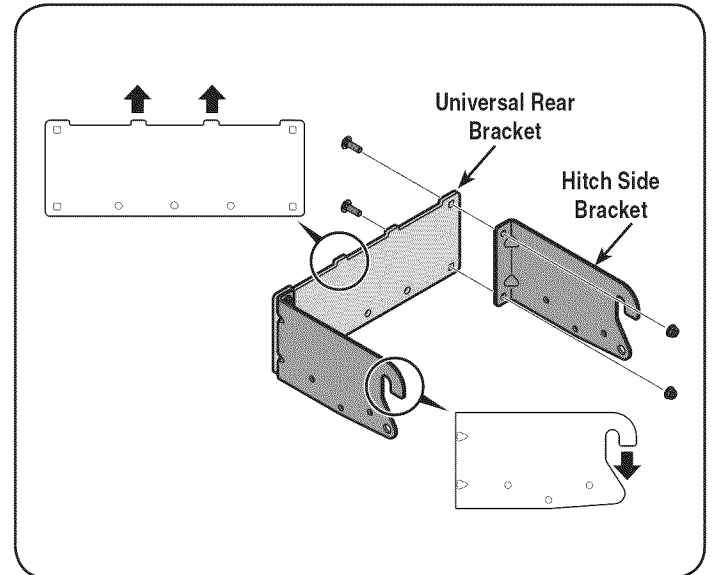

Figure 3
1. Attach the right-hand and left hand rider hitch bracket to the universal rear attachment bracket using the four carriage bolts (710-0276) and flange lock nuts (712-04063) packed with the mounting brackets. Position the brackets with the hooks on the right-hand and left hand rider hitch bracket pointing downward, and the tabs on the universal rear attachment bracket pointing upwards. See Figure 3.